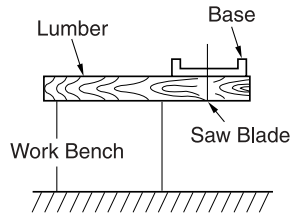

Fig. 6
7. Prepare a wooden work bench (Fig. 6).